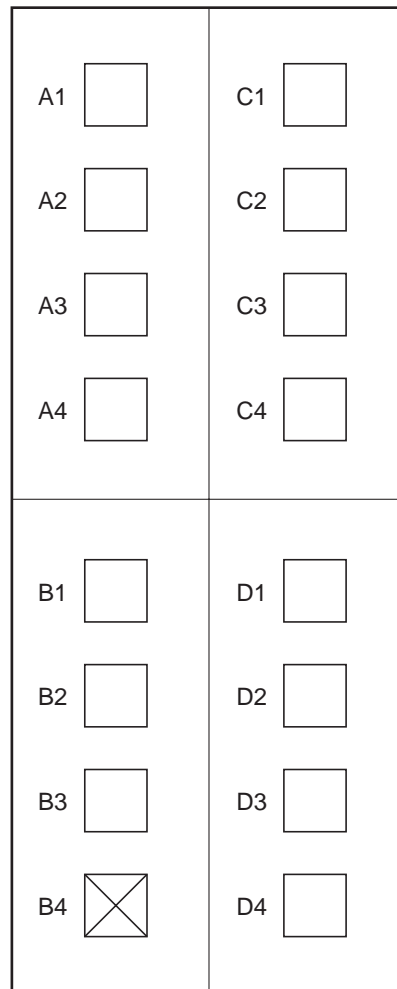

Figure A-3 Group and port identifiers.
Physical ports are always numbered from left to right (starting from 1), when viewed from the front. IOM slots are designated A and B on the MSM and C and D on the ESM. A fully configured switch has ports numbered, as shown in Figure A-3.
**Note** X (port B4) in Figure A-3 indicates that the port is reserved for CPU communications.